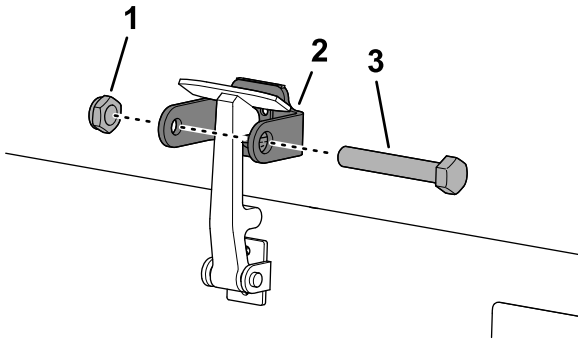

Figure 37
8. Screw the bolt into the other arm of hood-lock bracket to lock the latch in position (Figure 37).